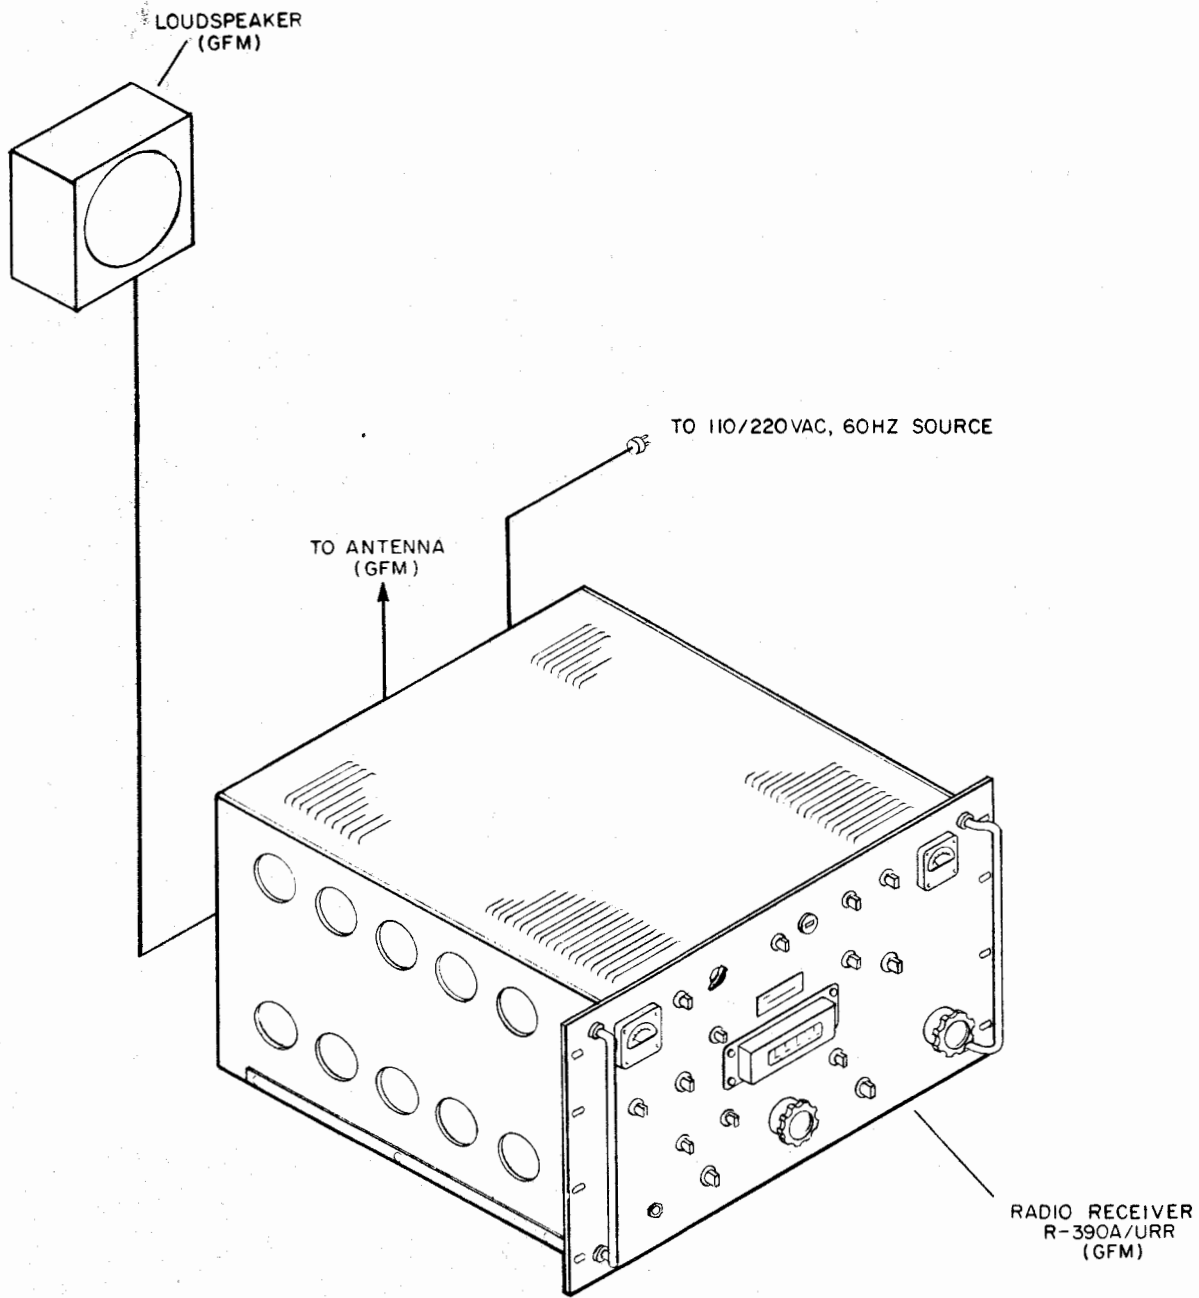

Figure 1-1. Radio Receiver R-390A/URR
1.1.1 Radio Receiver R-390A/URR (figure 1-1) is a general purpose receiver for use in both shore based or shipboard installations. It covers the frequency range of 0.5 to 32 MHz, and is especially adaptable for single-sideband, multi-channel radio-teletypewriter reception with terminal equipment.